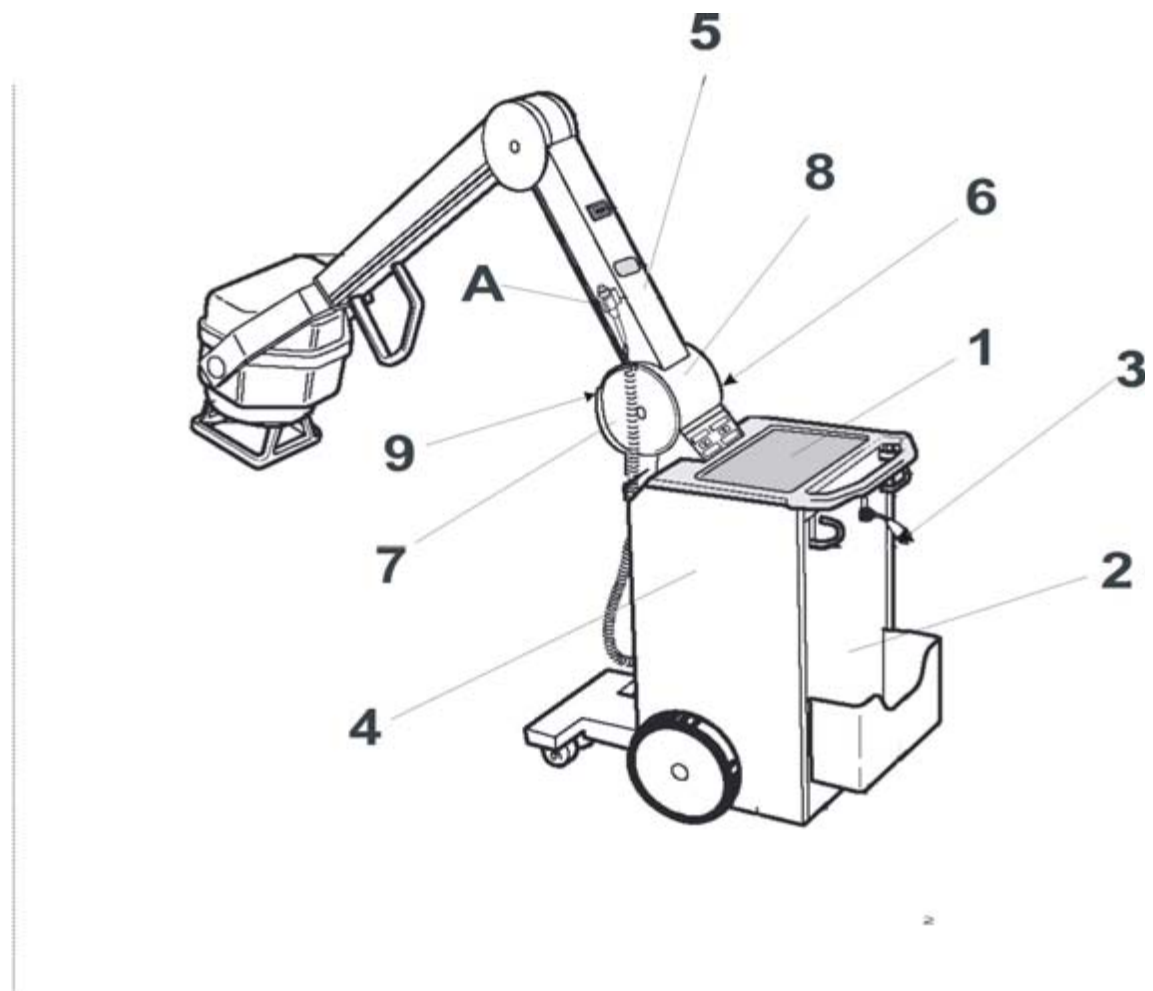

Fig. 3: Remove covers
- Remove the exposure switch first (A/ Fig. 3 / p. 7).
- Then remove the covers in the following order (1-9/ Fig. 3 / p. 7).
- Replace all covers in reverse order (1-9/Fig. 3 / p. 7).